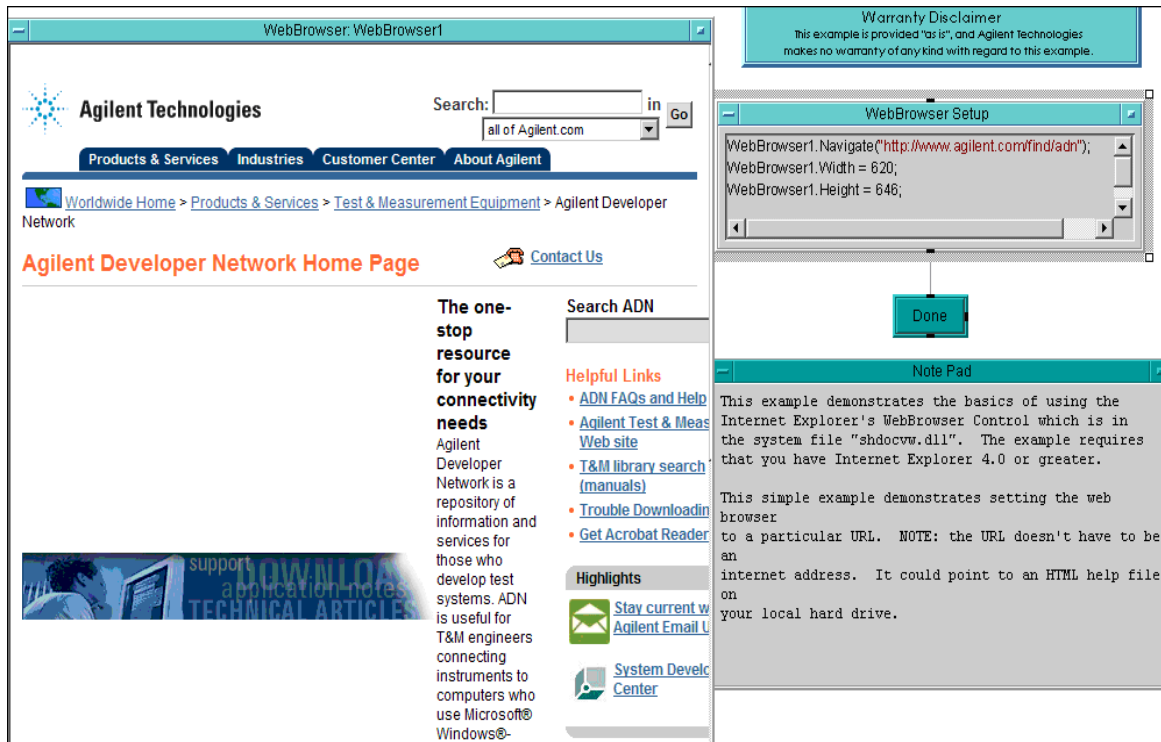

Figure 2-9 WebBrowser with a Web Address change
- 6 An example of using a different web site is given in Figure 2-9 after changing the first line of the WebBrowser Setup object to `http://www.agilent.com/find/adn`.